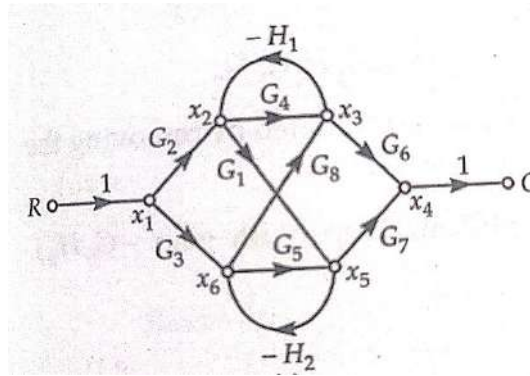

Figure 4
- (c) Using Mason Gain formula, derive the transfer functions from signal flow graph shown in Figure 4. 07